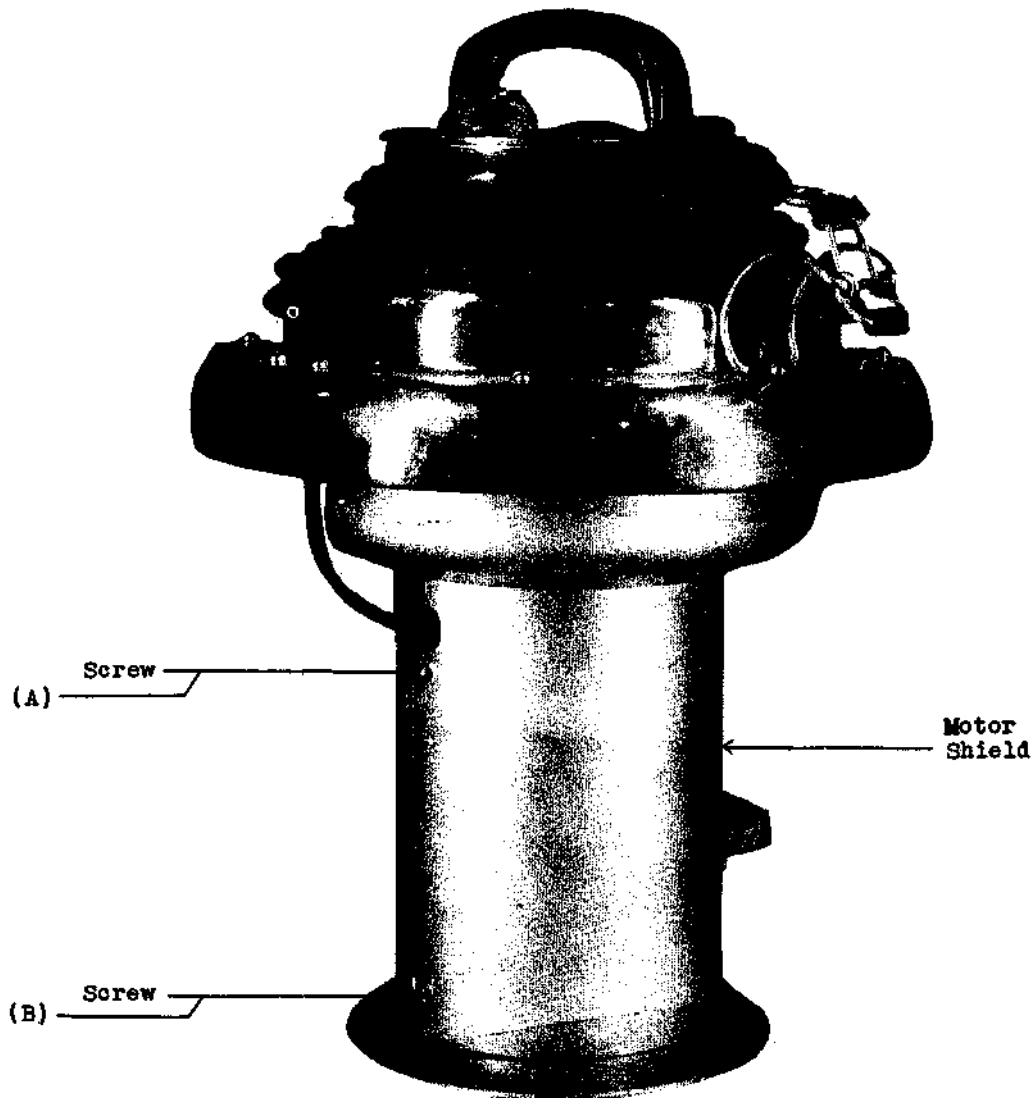

Fig. 3 - Motor Unit - Shield Mounted
(3) Empty the dirt from the enameled steel can.
(4) Remove loose dirt and dust from the filter. If the filter has become soiled to the extent that the efficiency of the machine is impaired, it shall be dry cleaned or replaced.
(5) Remove screws (A) and (B), Fig. 3, using the 3-1/2 inch cabinet screw-driver. Remove the shield.
- (2) Remove screws (A) and (B) (Fig. 3), using the 3-1/2 inch cabinet screwdriver. Remove the shield.